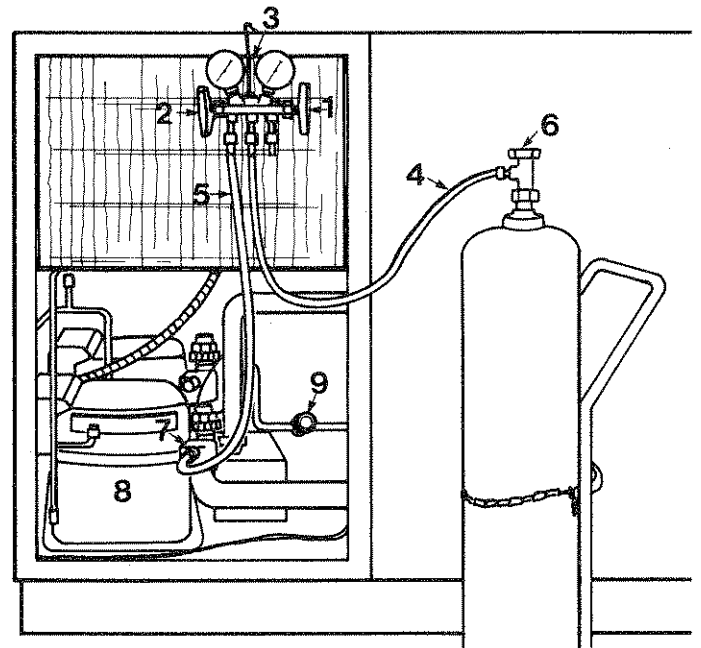

FIGURE D8
2. Turn the two valves (1 and 2) on the refrigeration gauge manifold (3) clockwise to close the valves. See Figure D8.
3. Connect the two charging hoses (4 and 5) to the refrigeration gauge manifold as shown in Figure D8.
4. Make sure the outlet valve (6) on the tank of refrigerant 502 is in the **OFF** position.
5. Connect the center charging hose (4) to the outlet valve on the tank of refrigerant 502
6. Turn the suction service valve (7) on the R-502 compressor (8) all the way counterclockwise (backseated).
7. Connect the suction gauge hose (5) to the suction service valve. Do not tighten the hose connection.